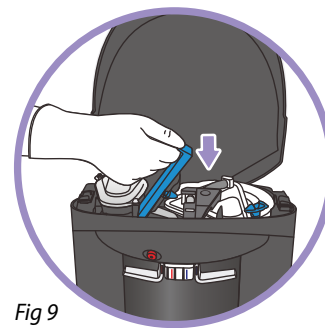

Fig 9
10. Rotate the blue knobs to the closed position. Close and latch the blue locking arm (Fig 9).